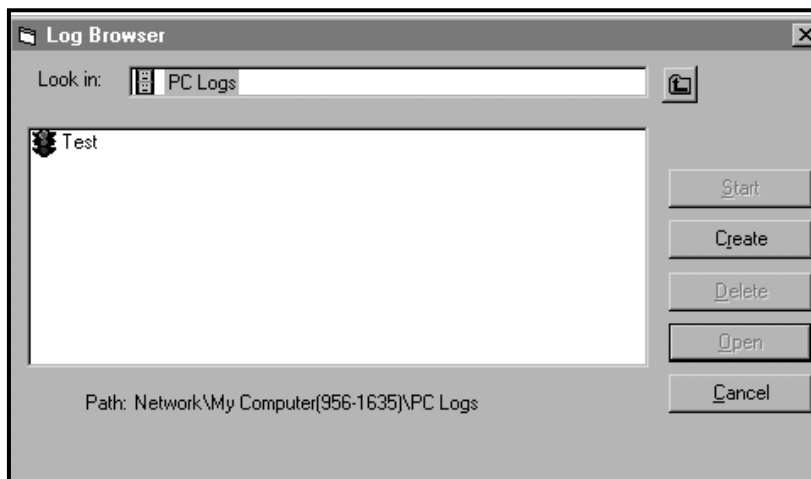

Figure 16: Create a PC Log
3. Double click on *PC Logs* to advance to the dialog box shown in *Figure 16*. below
4. At the dialog box shown in *Figure 16* above, click on the **[Create]** option button to create a new meter log.